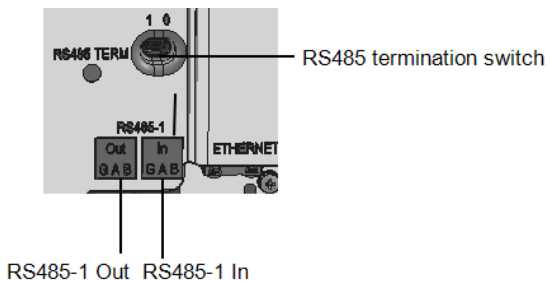

Figure 39: RS485 connectors and termination switch
- Push the RS485 terminal blocks firmly all the way into the connectors on the communication board, see *Figure 39*.
11. Terminate the first and last inverters on the bus by moving the termination switch to ON (left position); See *Figure 39*. The other inverters on the bus should have the termination switch OFF (right position).